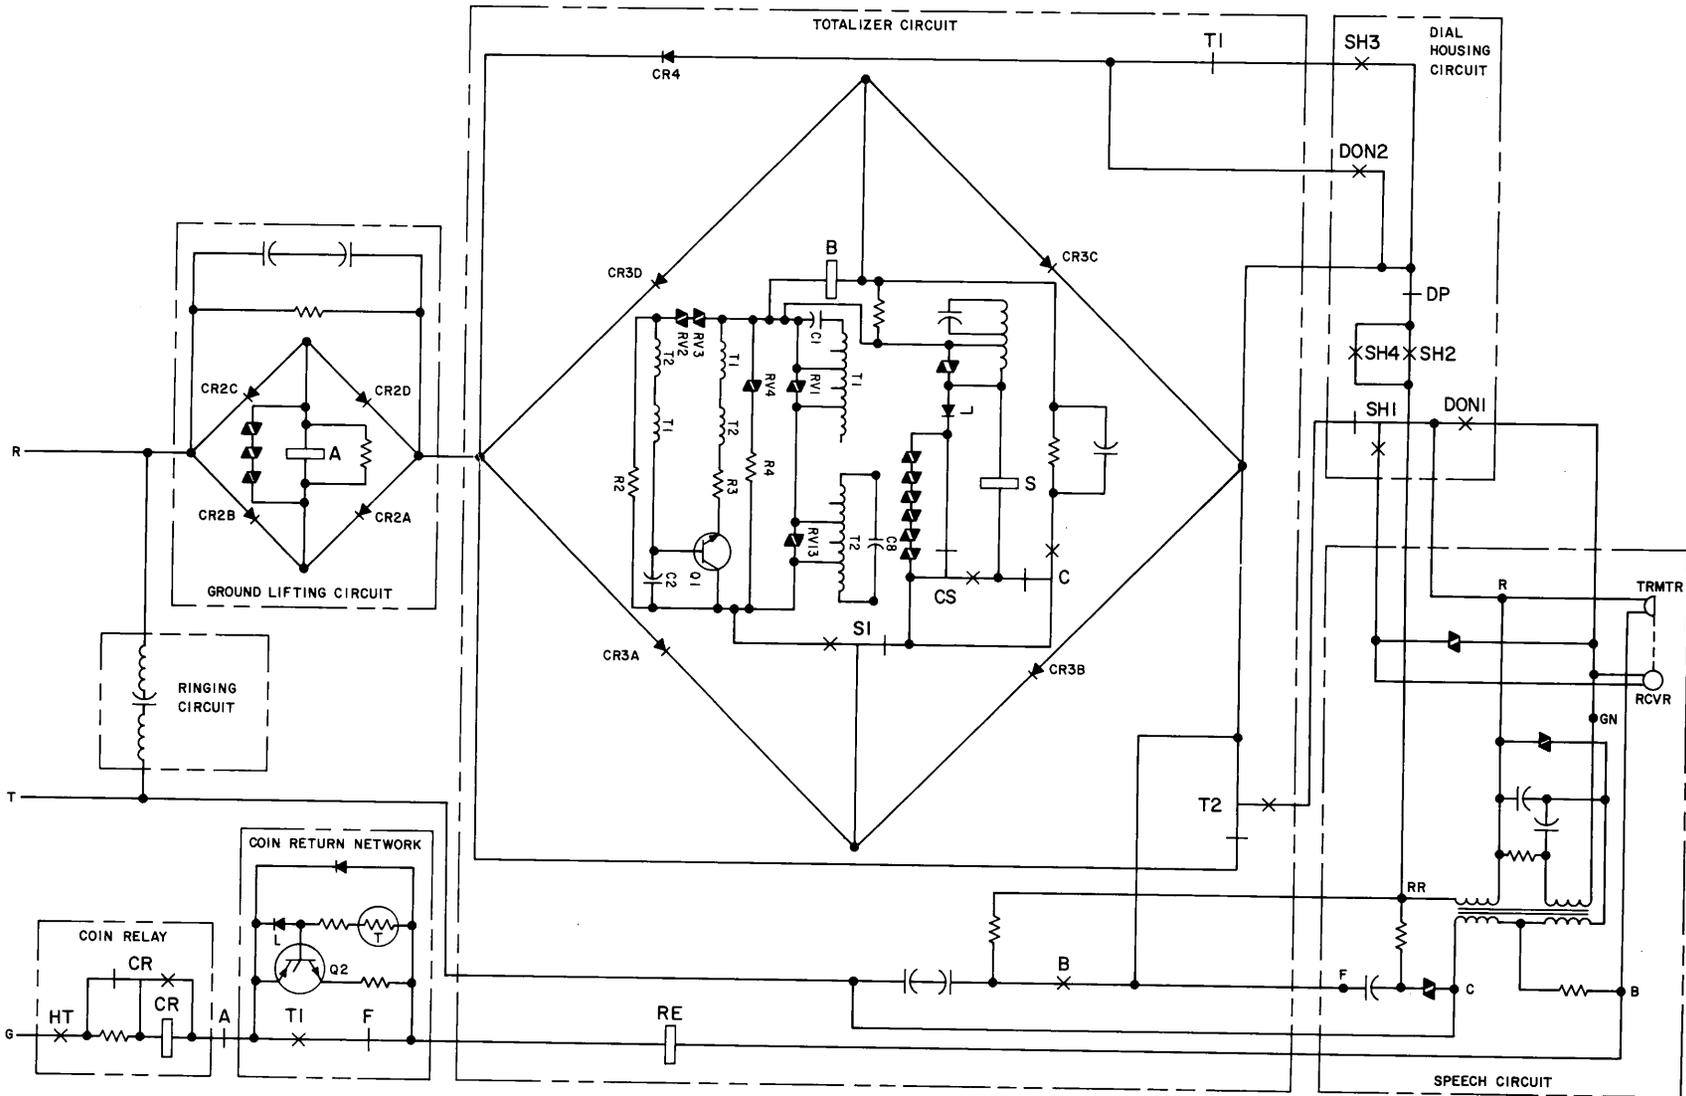

Fig. 9—1C1/2C1 Coin Telephone Set—Schematic (DTF Mode)¶
F. Other Component Circuits (Fig. 9 through 12)
2.21 Ground Lifting Circuit (Used in DTF only) (Fig. 9 and 10).
2.22 Coin Return Network (Used in DTF only) (Fig. 9 and 10).
DIAL-TONE-FIRST SERVICE (Fig. 9 and 10)